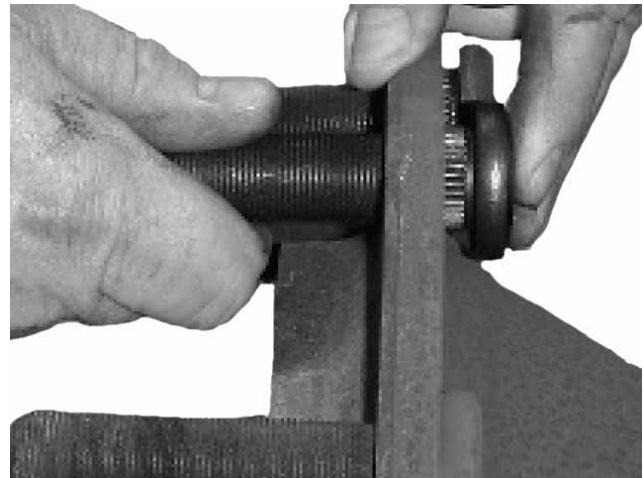

Figure 5: Installing new studs
2. **Install** new stud into hub (Figure 5). If possible, line up knurls on the replacement stud with impressions (grooves) in the hub stud hole made by the removed stud.